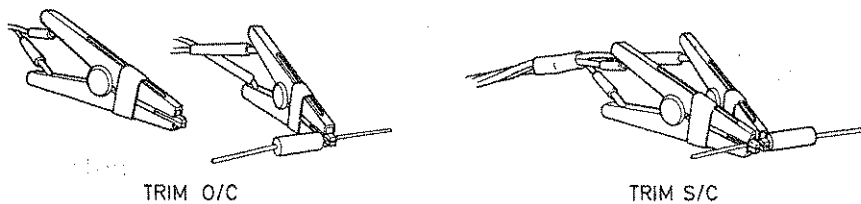

Fig. 5.1 Trim connections
- 1 Press Trim S/C. Clip the leads to a piece of wire or a component lead, as close together as possible (see Fig. 5.1). Do not connect the clips directly to each other (this does not provide the necessary 4-terminal short circuit).